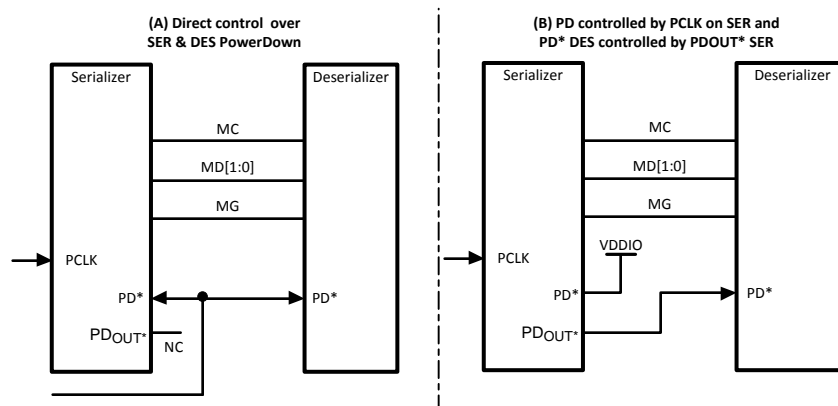

Figure 13. Power Down Control Options
Multiple configurations for PowerDown are possible with the chipset. These depend on the operating mode and configuration chosen. Two possible applications are shown in Figure 13. RGB Modes are shown in (A) and (B). "A" provides PD\* input pins on both devices, this may be common or separate. In (B), the SER is controlled by the PCLK STOP feature and a PDOUT\* pin is provided to control the DES. When using the SER PDOUT\* mode, the VDDIO rails of the devices should be the same to meet the PD\* input thresholds of the DES.